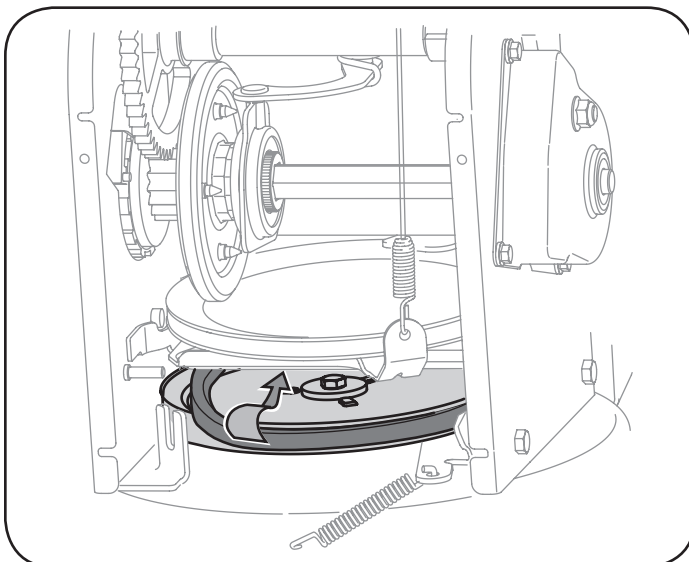

Figure 71
- Remove the belt from around the auger pulley, and slip the belt between the support bracket and the auger pulley. See Figure 71.